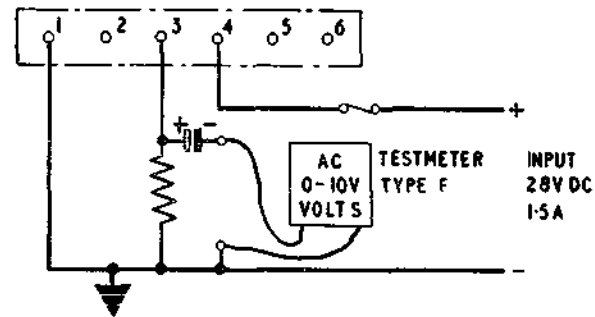

Fig. 2. Ripple test layout
9. The second test is of output ripple voltage. This is measured with the testmeter Type F adjusted to read the AC voltage appearing across the load resistor. The capacitor (fig. 2) isolates the DC component of the output from the testmeter.
10. The DC input should be adjusted to 28 volts and, with the equipment set up as in fig. 2, the reading on the testmeter Type F should not exceed 2V AC.